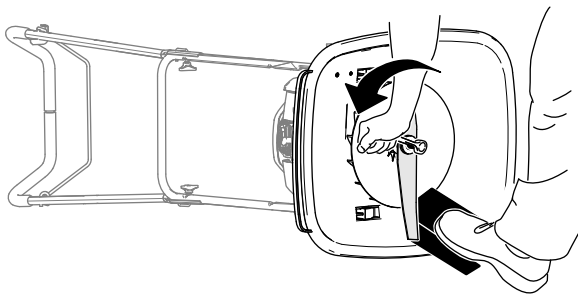

Figure 21
3. Use a block of wood to hold the blade steady (Figure 21).
- Use a wrench to remove the blade by rotating the bolt counterclockwise (Figure 21).